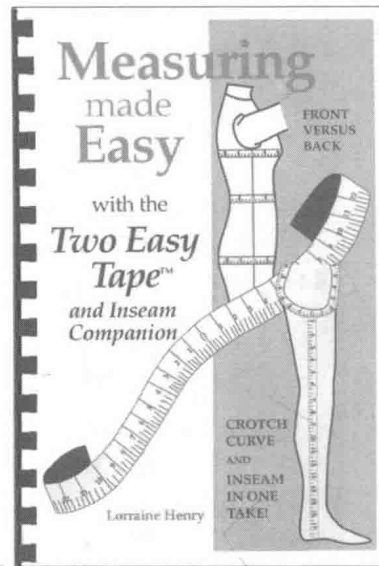

FIGURE 1.5 Measuring just got easier!
- **Measuring tape:** The best measuring tapes are made of fiberglass or cloth specifically treated to prevent stretching, tearing, and wrinkling. Roll the tape in a slightly loose coil and store it on its edge. The new interlocking Two Easy Tape with its Inseam Companion Tape (see Figure 1.5) offers measurement options not previously available. The set of tapes is designed to measure both the inseam and crotch length from a secure point of reference.